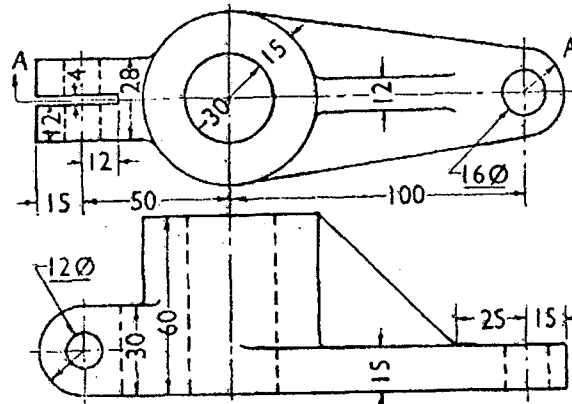

Fig.13.a
13. b) Design a Turning Fixture for use when boring the $\phi 62$ hole in the component shown in Fig. 13.b.
- i) Give a neat operation chart. (2)